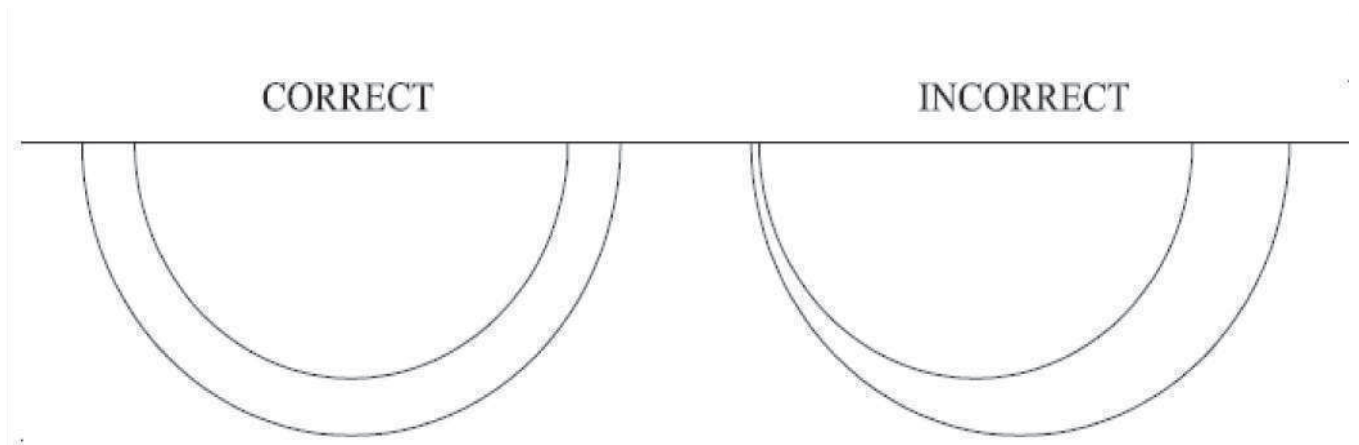

FIGURE 28
- B. Check the alignment of the unit. After cleaning the unit, always check the alignment of the upper and lower dies. To check the alignment, insert the upper die and die holder, without the springs, into the housing and check the gap. SEE FIGURE 28 ON THE FOLLOWING PAGE.